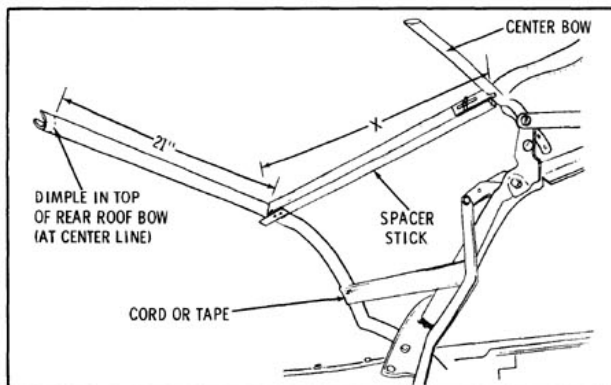

Fig. 16-131 Installation of Spacer Sticks
14. Lock top to windshield header. Install radius end of each adjustable spacer stick to fit against center roof bow. Install opposite end of spacer stick so that metal plate fits under rear roof bow. (Fig. 16-131) Spacer sticks should be installed along inboard edge of side stay pad.
16. Temporarily tie or tape rear bow to rear side roof rails. (Fig. 16-131) Detach nylon webbing, side stay pads and back curtain assembly from rear bow.
1. If new top is being installed but it was impossible to perform Step 14 of removal procedure, preset spacer sticks to shortest length and install between center and rear roof bow. (Fig. 16-131) Adjust sticks so that dimension "X" in Fig. 16-131 (measured along spacer stick from front upper rolled edge of rear roof bow to center of center bow) is $16\text{-}3/8" \pm 1/4"$.